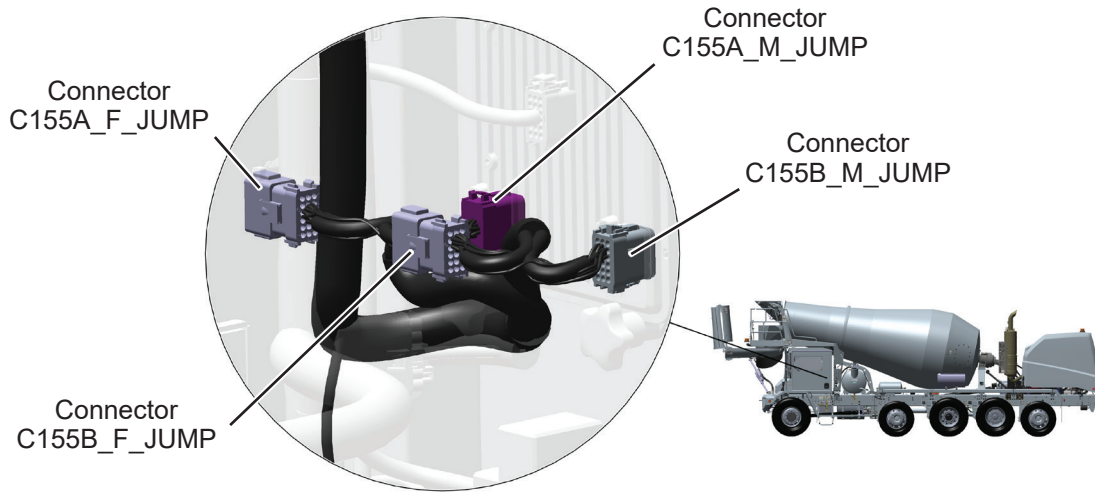

Figure 13
22. Connect cab harness connector C155A removed in Step 21 to jumper harness connector C155A\_F\_JUMP. See Figure 13.
23. Connect cab harness connector C155B removed in Step 21 to jumper harness connector C155B\_F\_JUMP. See Figure 13.
24. Connect jumper harness connector C155A\_M\_JUMP to FCM A. See Figure 13.
25. Connect jumper harness connector C155A\_M\_JUMP to FCM B. See Figure 13.